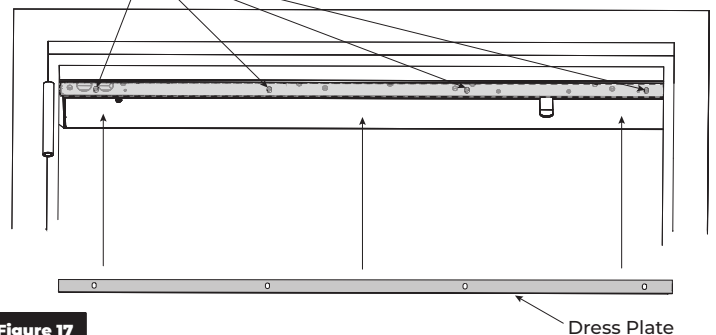

Figure 17
- Use four (4) 8-32 X 5/16" machine screws to secure the dress plate to the backplate where indicated. (Figure 17)